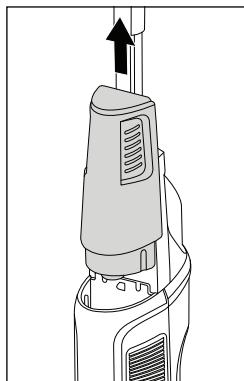

Fig. 6
- Never operate the appliance without water in the fresh water tank ⑪.
- ♦ Grasp the fresh water tank ⑪ by the gripping grooves on the side and pull it upwards out of the appliance (see fig. 6).